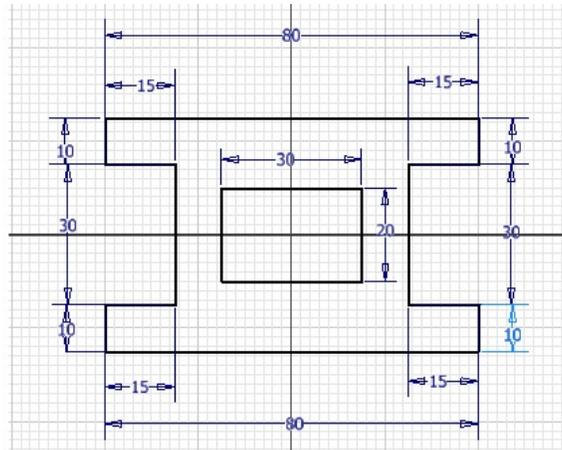

Figure 2-69 Completed sketch for Tutorial 2
- c. Draw the inner closed loop by using the Dynamic Input method, refer to Figure 2-69.
21. Next, right-click on the graphics window; a Marking Menu is displayed. Choose **Cancel (ESC)** from the Marking Menu; the sketch is created, as shown in Figure 2-69.